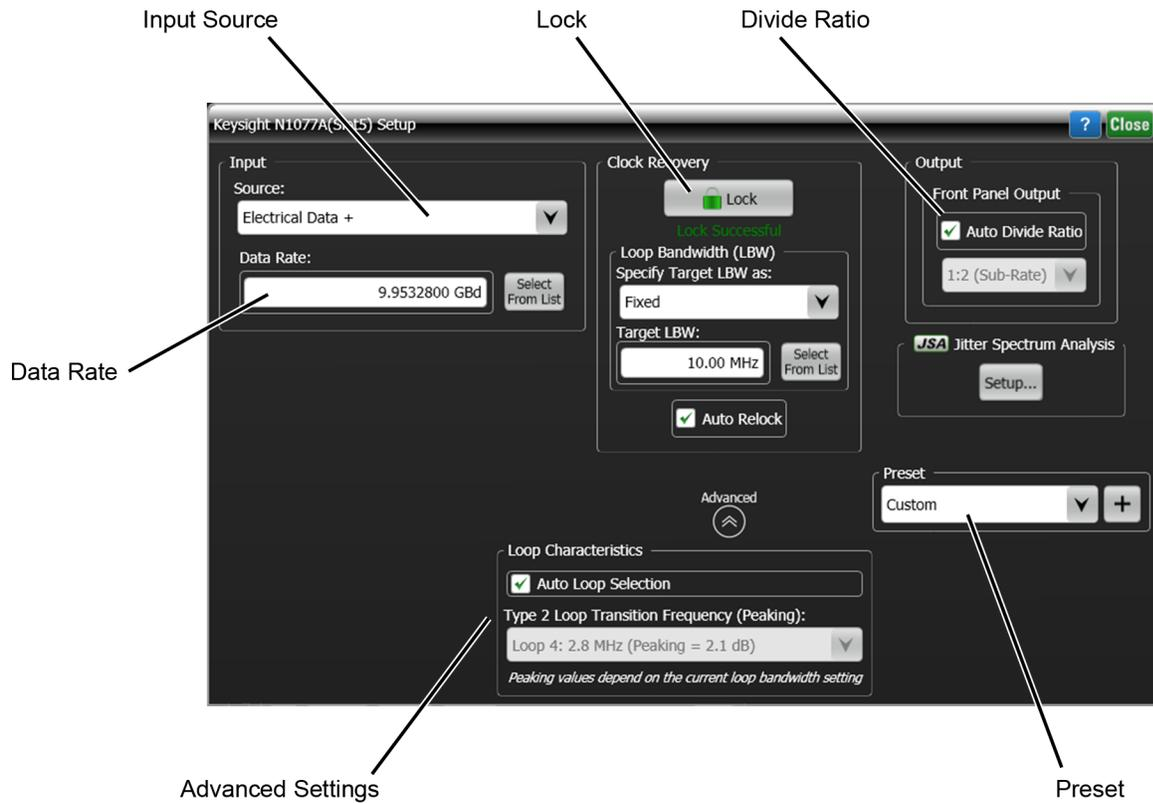

Figure 47. Clock Recovery Setup Dialog
6. Click **Setup > Modules > (Slot 6): Clock Recovery**. The dialog shown *Figure 47 on page 93* is displayed.